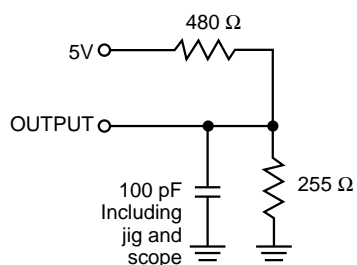

Figure 1a.
1. Test conditions assume signal transition times of 5 ns or less, timing reference levels of 1.5V, input pulse levels of 0 to 3.0V and output loading specified in Figure 1a.
| Output Load | See Figures 1a and 1b |